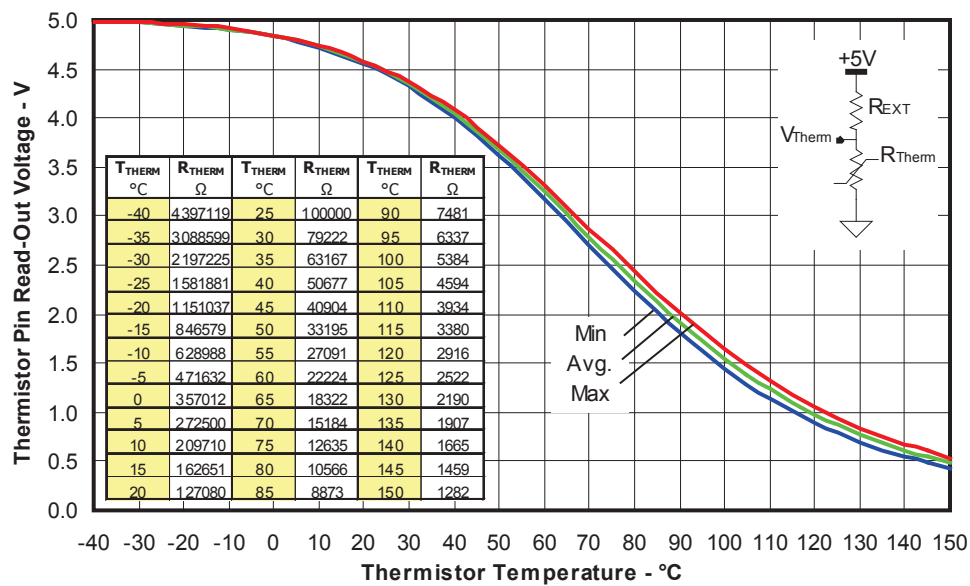

Figure 9. Thermistor Readout vs. Temperature (12Kohm pull-up resistor, 5V) and Normal Thermistor Resistance values vs. Temperature Table.
3. Value of the boot-strap capacitors depends upon the switching frequency. Their selection should be made based on IR design tip DN 98-2a, application note AN-1044 or Figure 9. Bootstrap capacitor value must be selected to limit the power dissipation of the internal resistor in series with the VCC. (see maximum ratings Table on page 3).